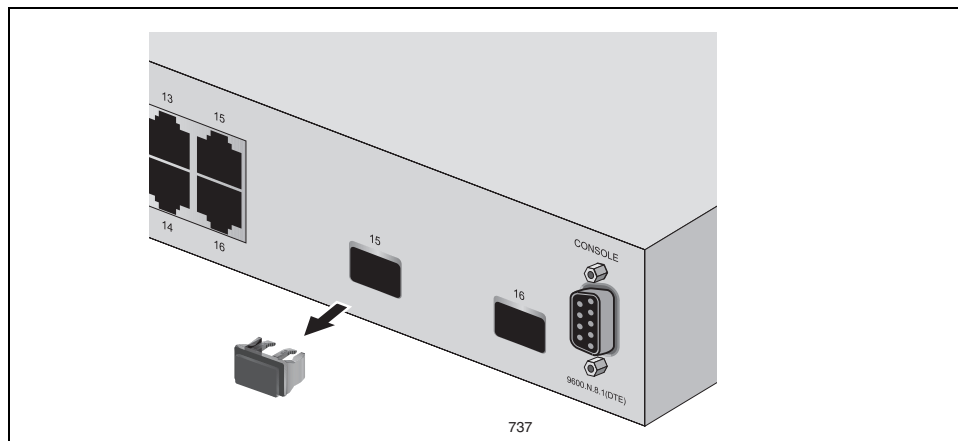

Figure 11. Removing the Dust Plug from the SFP Slot
2. Remove the dust plug from the SFP slot, as shown in Figure 11.